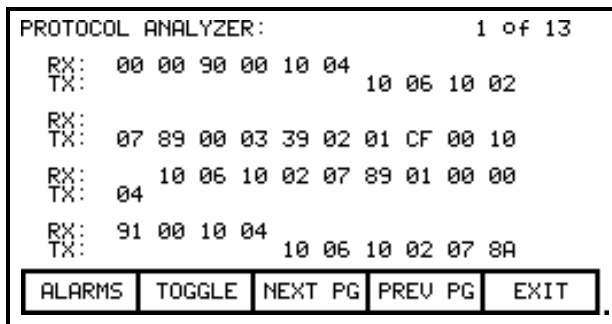

Figure 83 – Hexadecimal Displayed
- the data shown in hexadecimal (Figure 83) ,